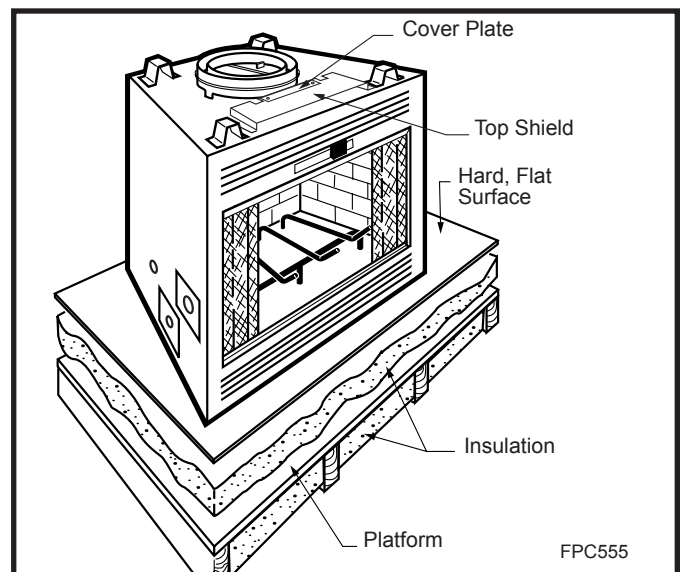

Fig. 8 Insulating between platform and fireplace.
Insulate base of fireplace with a noncombustible insulation rated for a minimum of 300°F. Insulating is **very important** for outside wall installations over a concrete slab. If fireplace is installed on a platform, insulation should be placed on top of the platform **before** fireplace is set. (Fig. 8)
**NOTE:** To use the TWABR adapter on the WMC36, remove and discard the cover plate on the top shield. (Fig. 8)